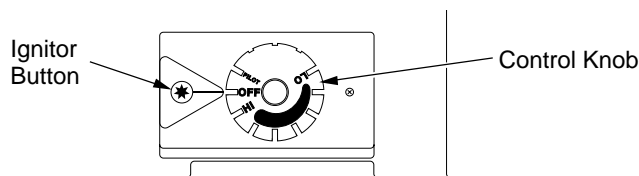

Figure 45 - Control Knob In The OFF Position
4. Wait five (5) minutes to clear out any gas. Then smell for gas, including near the floor. If you smell gas, **STOP!** Follow "B" in the safety information above. If you don't smell gas, go to the next step.
5. Turn control knob counterclockwise  to the PI-LOT position. Press in control knob for five (5) seconds (see Figure 45).